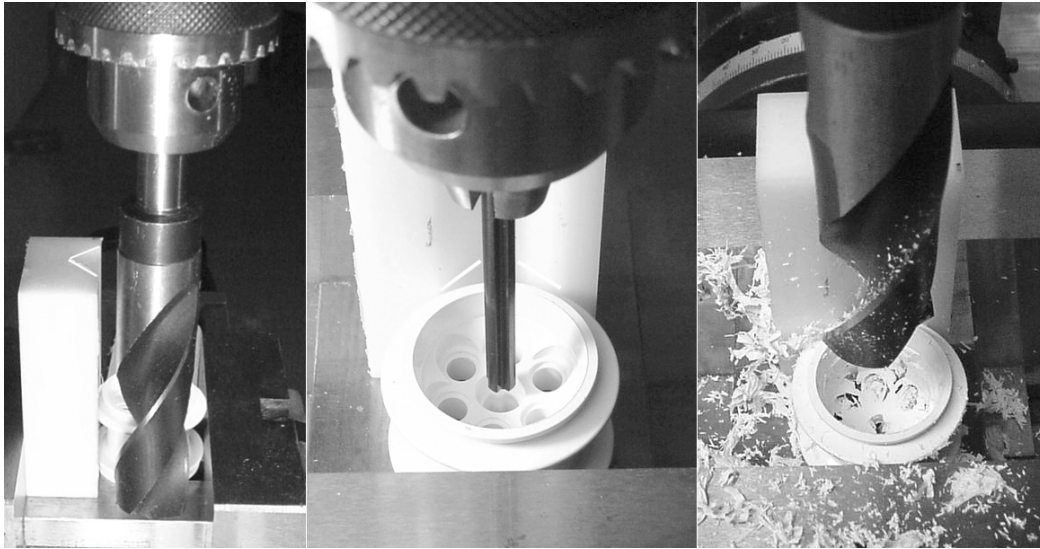

Figure 5-24. Checking depth (left), centering with a LEGO cross axle (center), drilling (right)
2. Insert the $\frac{7}{8}$ drill into the drill chuck, and lower it to one side of the hub to determine the proper depth to drill without damaging the vise (see left side of Figure 5-24). Write down or note the depth on the milling/drilling machine's z-axis gauge because the limit block can't be set until after the next step.
3. Insert a LEGO cross axle into the drill chuck, and roughly center the hub until the axle can slide into the hub's axle socket (see the center of Figure 5-24). Lock the vise and milling/drilling machine's x-axis and y-axis locks.
5. Reinsert the $\frac{7}{8}$ drill into the drill chuck and drill out the center of the hub (see the right of Figure 5-24), all the way through.